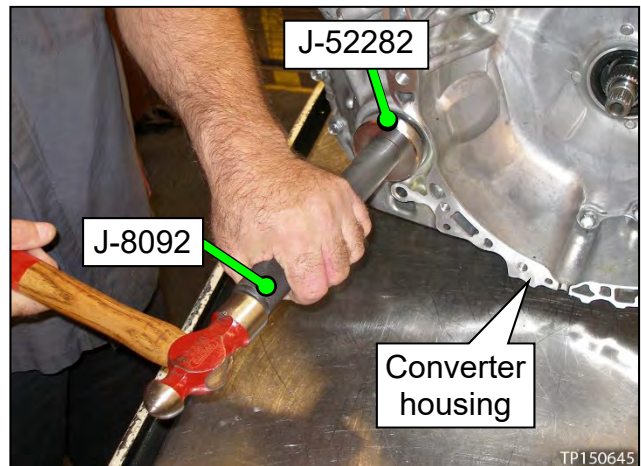

Figure 123
**NO:** Install the torque converter housing side axle seal (Figure 123).